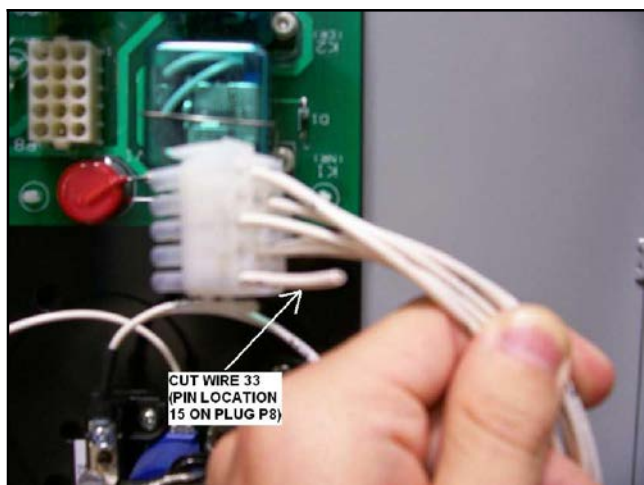

Figure 44 Cut Lead 33 at Pin 15 on Plug P8
39. Cut lead 33 (pin location: 15 on plug P8). See Figure 44. Lead 33 will be connected to the MPAC 1500 controller later in this procedure.